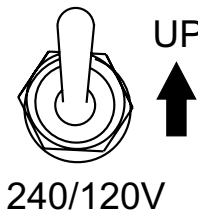

Figure 21. Full Power Switch 120V Position (Up)
- Place the full power switch (Figure 21) in the 120V position (up).